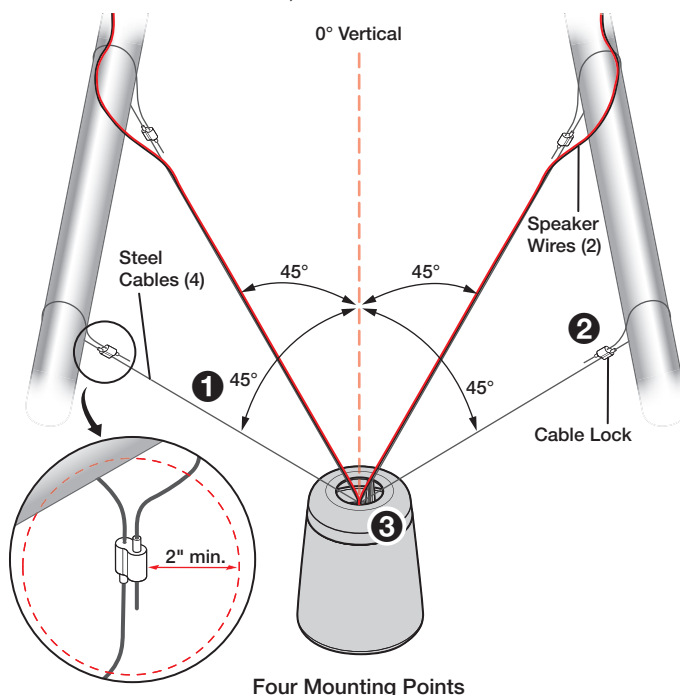

Figure 17. 4-Cable Installation
2. Route the four cables from the kit to overhead mounting locations such that the angle between each cable and the vertical position directly above the speaker is 45° (see figure 17, ①, above).
4. Use cable locks to secure the four cables from the kit to the mounting locations (②).